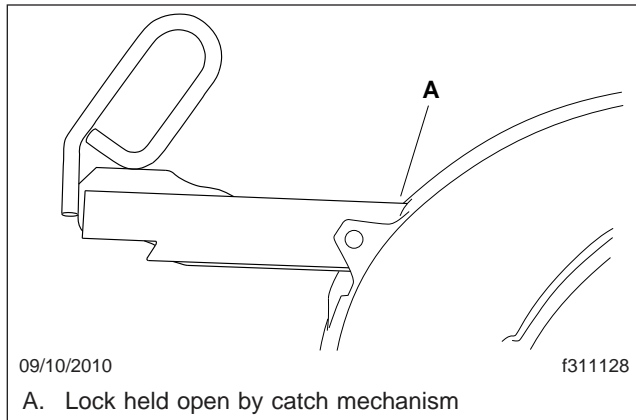

Fig. 10.7, Jost Release Handle Unlocked
2. Open the kingpin locks. See Fig. 10.7.